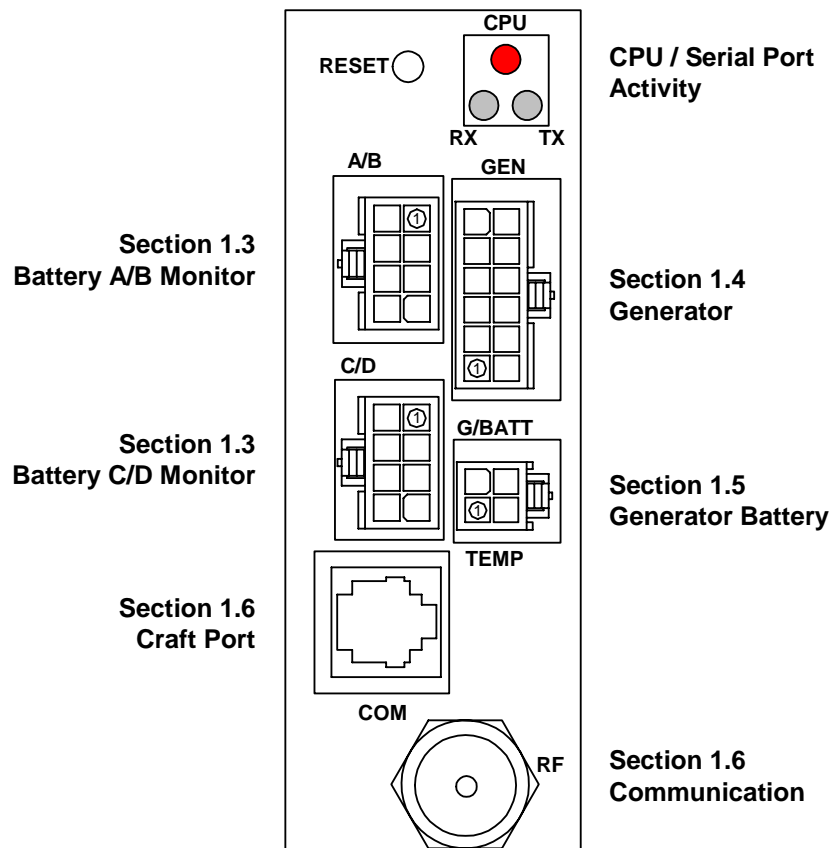

Figure 1-2 Input / Output Connections
- Verify that, after approx. 1 minute, the 'CPU' LED on the front of the transponder is blinking, if not, press the RESET button behind the hole next to the LEDs (see Fig. 1-2).